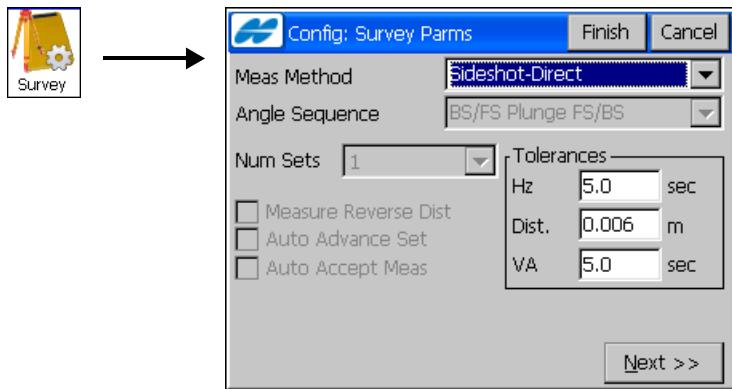

Figure 3-2. Survey Parameters: First Screen
To configure a survey, tap the **Survey** icon . The ***Config: Survey Params*** screen displays (Figure 3-2).
- **Finish** – saves the changes and returns to the **Config: Survey Params** screen (Figure 3-2 on page 3-2). Settings are transmitted only when the configuration is used.